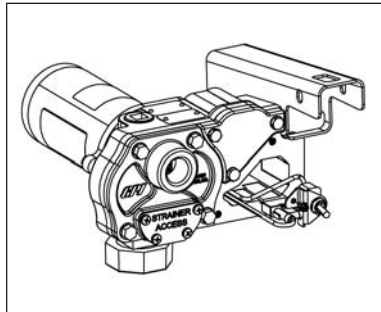

Figure 16
- Remove switch bracket mounting screw and gently pull switch from switch cavity. (Figure 16)